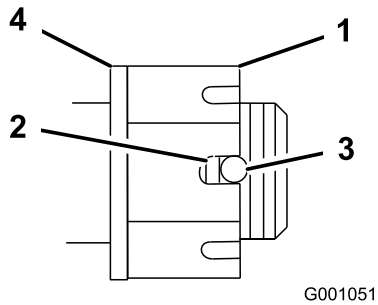

Figure 59
4. Torque the slotted nut to 125 ft-lb (170 N-m) (Figure 59).
5. Check the distance from bottom of slot in nut to inside edge of hole. Two threads or less should be showing (Figure 59).
7. Torque the slotted nut to 125 ft-lb. (170 N-m) (Figure 59).
8. Tighten the nut until the next set of slots line up with the hole in the shaft (Figure 59).